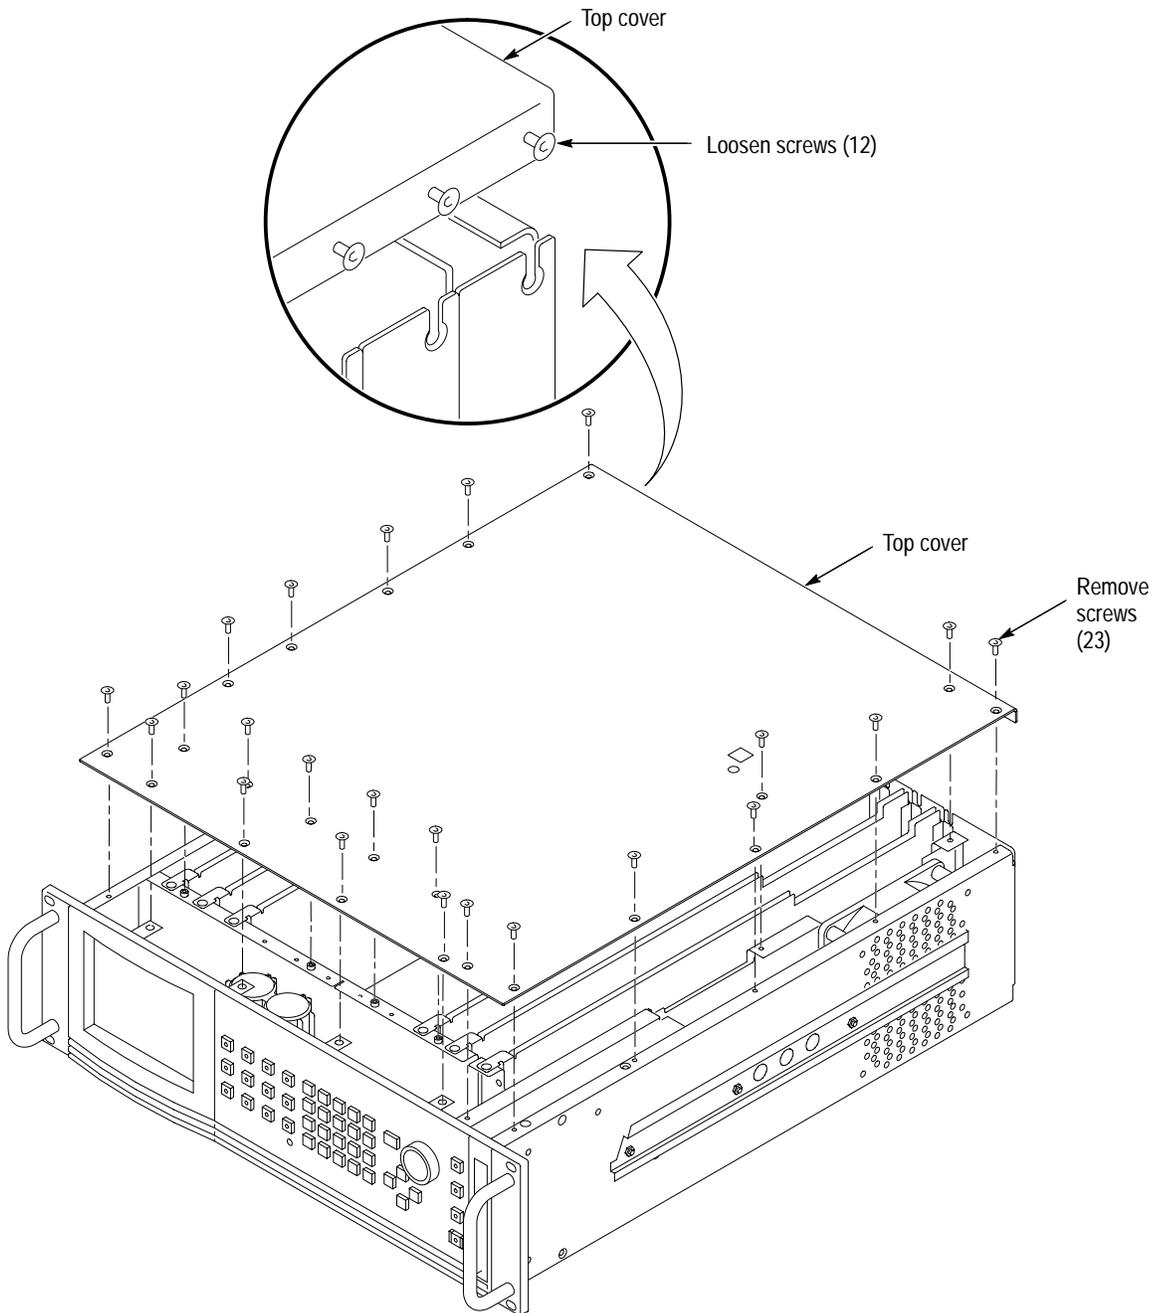

Figure C-2: Top cover removal
4. Refer to Figure C-2 and remove or loosen all screws to remove the top cover.
3. Remove all top-cover screws and remove the top cover. See Figure C-2 on page C-3.